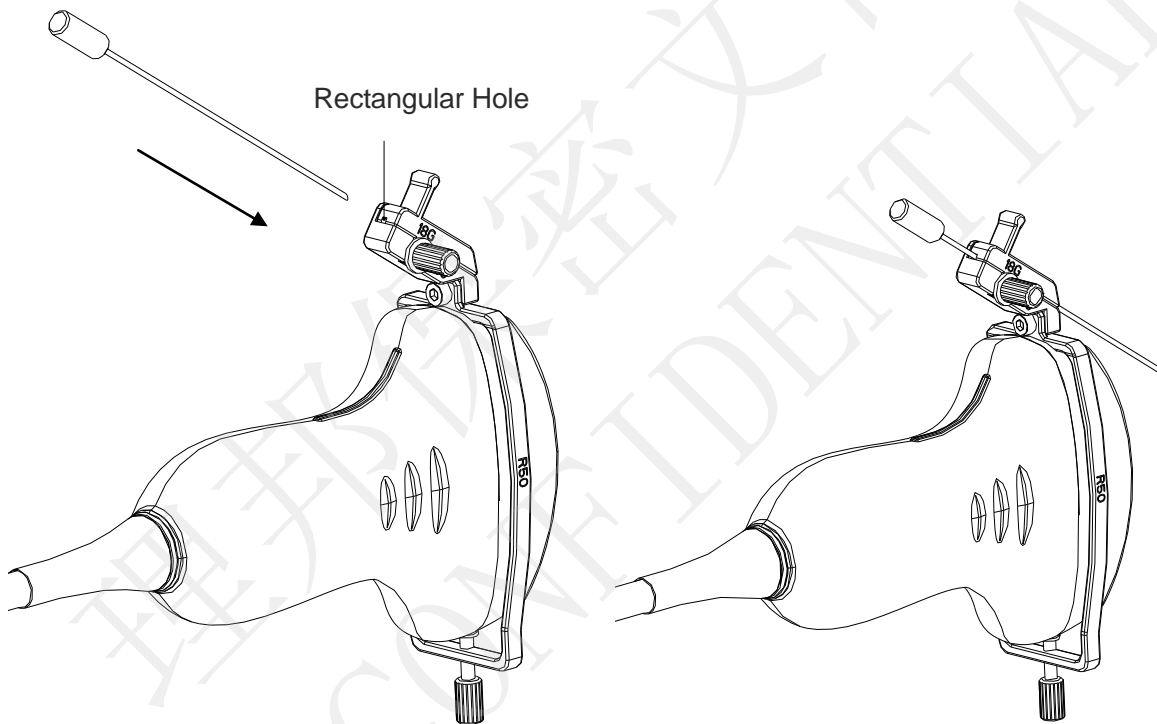

Figure 6-33 Inserting Needle into Rectangular Hole
Step 4: Insert the needle into the rectangular hole, as shown in Figure 6-33.